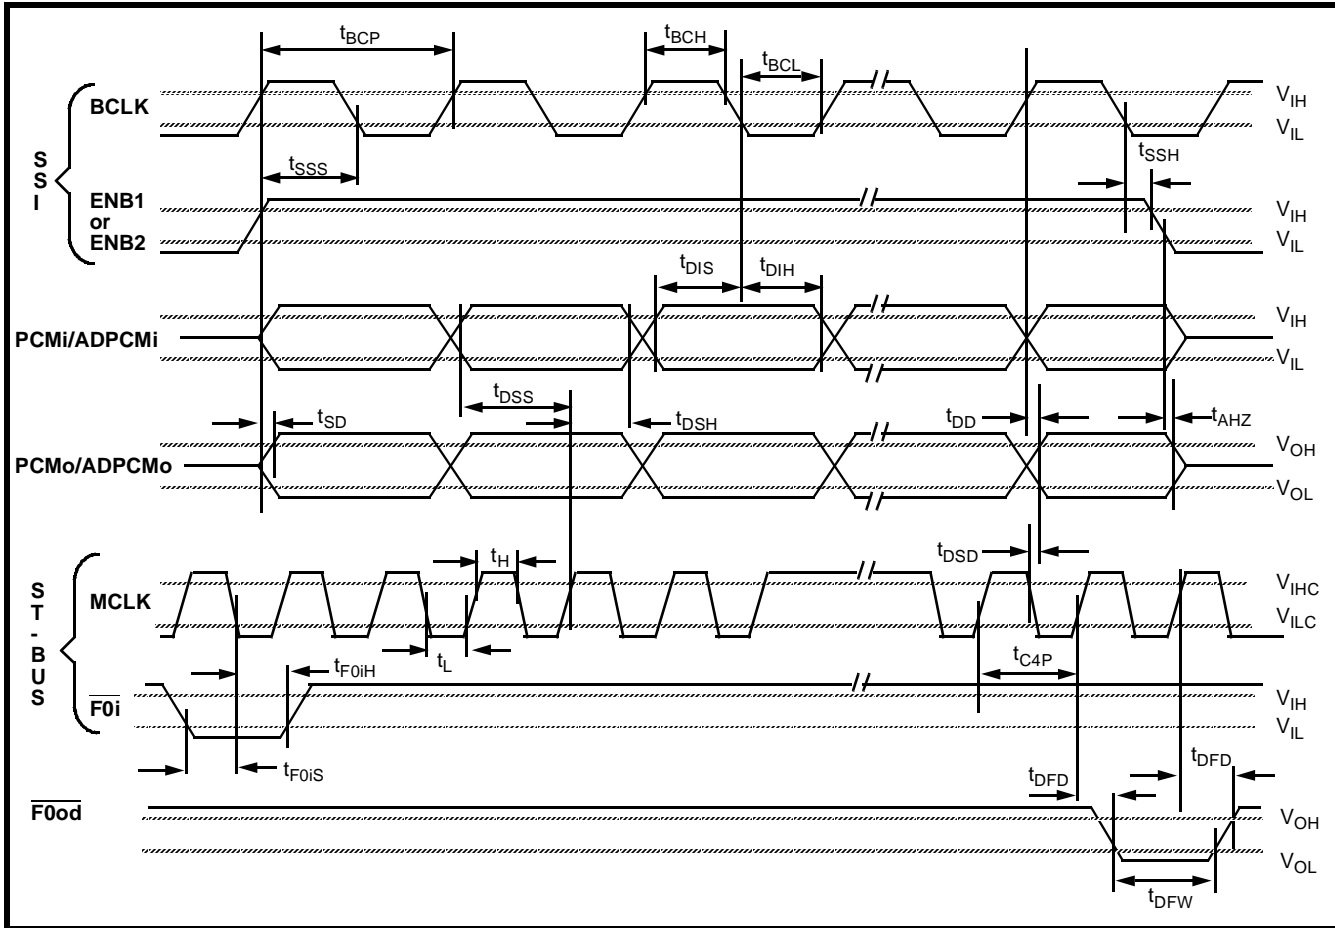

Figure 14 - Serial Port Timing
**AC Electrical Characteristics† - Serial PCM/ADPCM Interfaces (see Figure 14)**
Refer to Figure 14 for ST-BUS  $\overline{F0i}$  timing.